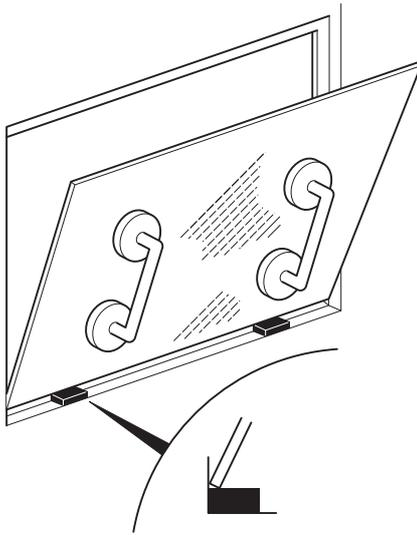

Fig 16.
- b Sit the bottom edge of the glass on the spacer blocks. ⇒ Fig 16. \(□ B-33\)